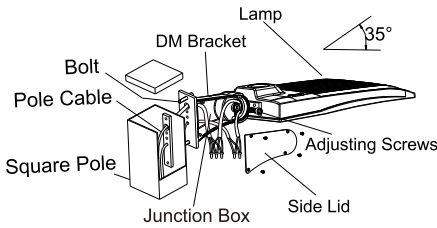

Figure 3
2.DIRECT MOUNTING (DM)
Step 1:Fix DM bracket to square pole with bolt,open the side lid of DM bracket, pull the wire into junction box, and connect the wire correctly. (Figure 3)
Notice: Adjustable angle is 0-35°(Figure 3).